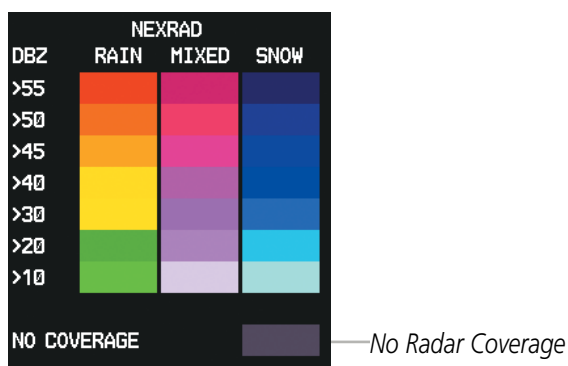

Figure 6-11 NEXRAD Data with Legend
- 1) Press the **MAP** Softkey (for the PFD Inset Map, press the **INSET** Softkey). This step is not necessary on the Weather Data Link (XM) Page.
The weather product displays composite information from all the NEXRAD radar sites in the United States. This information is composed of the maximum reflectivity from the individual radar sweeps. The display of the information is color-coded to indicate the weather severity level. All weather product legends can be viewed on the Weather Data Link (XM) Page. For the NEXRAD legend (Figure 6-11), press the **LEGEND** Softkey when NEXRAD is enabled for display.
The display of No Radar Coverage is always active when either NEXRAD or Echo Tops is selected. Areas where NEXRAD radar coverage and Echo Tops information is not currently available or is not being collected are indicated in a gray shade of purple (Figure 6-11).